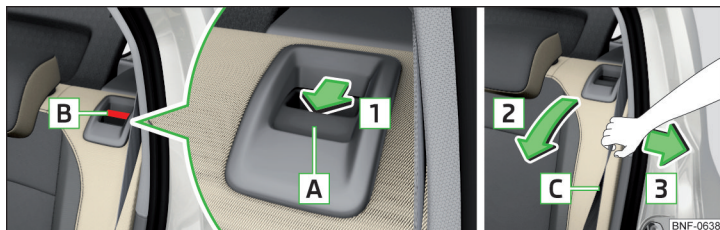

Fig. 55 Folding the seat backrest forwards
- Press the release lever **A** in the direction of arrow **1** » Fig. 55.
- Press down the release handles **A** in the direction of arrow **1** on both sides of the seat backrest » Fig. 55.
- Make sure that the red marker **B** » Fig. 55 is hidden.
- Make sure that the red marks **B** » Fig. 55 on both sides of the seat back are no longer visible.